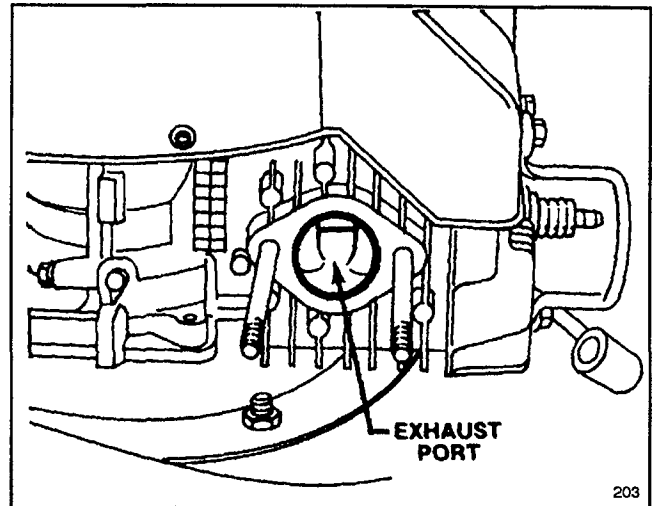

Figure 22
3. Pull wire off spark plug. Slowly pull recoil starter so piston covers exhaust port (Fig. 22).
4. Clean carbon from exhaust port (Fig. 22) with flat, hard wood scraper.